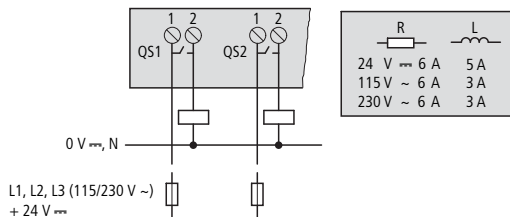

Figure 15: Relay outputs ES4P-221-DR...
- series connection of two QS outputs (ES4P-221-DR...), → figure 15 on page 51.